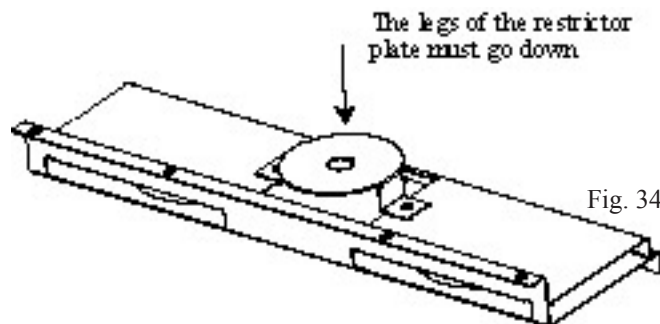

Fig. 34
4. Remove the two (2) screws from the top face of the baffle assembly, Fig. 32. Place the restrictor plate as shown in Fig. 34 and secure by refitting the screws.